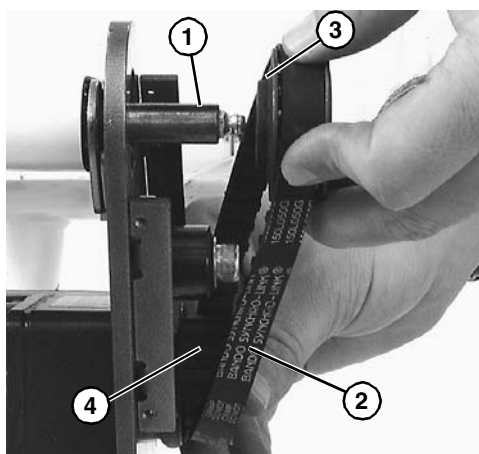

Figure 12
6. Install key (Figure 12, item 1).
7. Wrap timing belt (Figure 12, item 2) around driven pulley (Figure 12, item 3) and drive pulley (Figure 12, item 4). Install driven pulley (Figure 12, item 3) onto conveyor shaft.